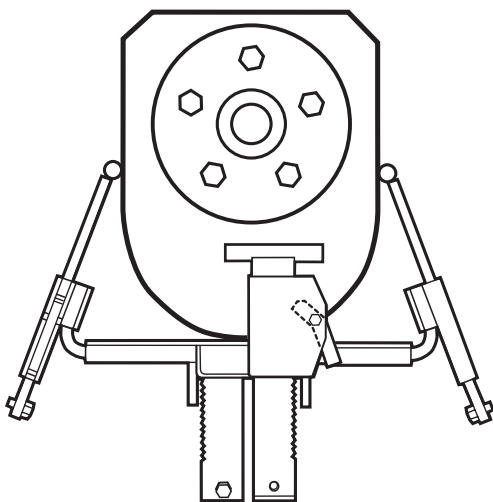

Figure 2
4. Using the ratcheting feature, adjust the jack brackets and the adapters so the adapter top bars seat against the transmission. See Figures 2 & 3.